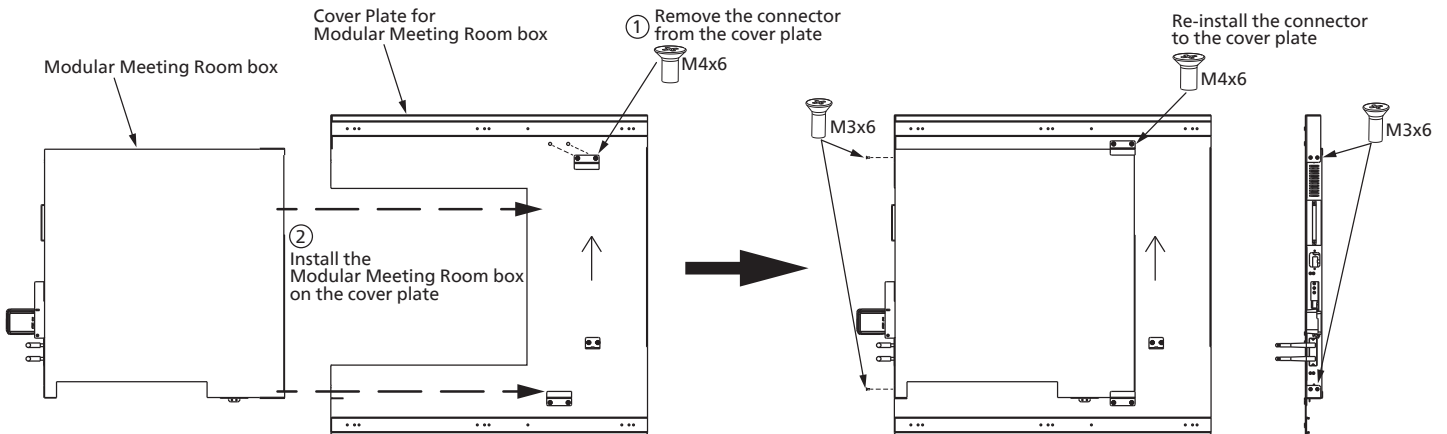

Figure 11 Install the Modular Meeting Room box
- Install the Modular Meeting Room box on the cover plate. Remove the connector from the cover plate and install the box on it, then tighten it with screws at the marked hole position, as shown in Figure 11.